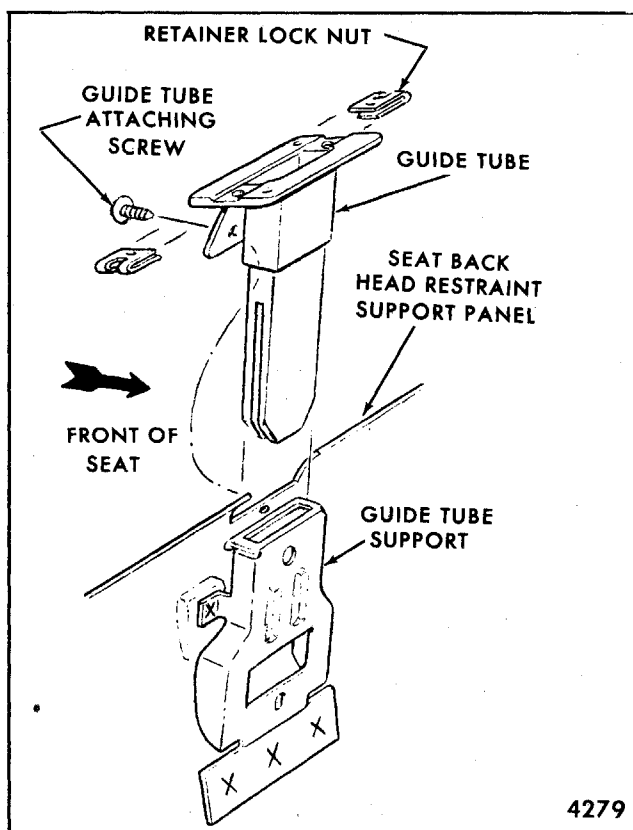

Fig. 9-85-Head Restraint Guide Tube - E and X Styles
2. On E and X style seat backs with one-piece (envelope type) seat back trim assembly, remove seat back assembly as previously described; then as a bench operation remove hog rings securing trim at bottom of seat back and pull up trim sufficiently to gain access to head restraint support or guide tube. On seat backs with seat back panel or detachable rear trim facing, remove seat back panel and detach back trim sufficiently to gain access to head restraint support or guide tube. Remove screw securing guide tube and slide guide tube out of support (Fig. 9-85).